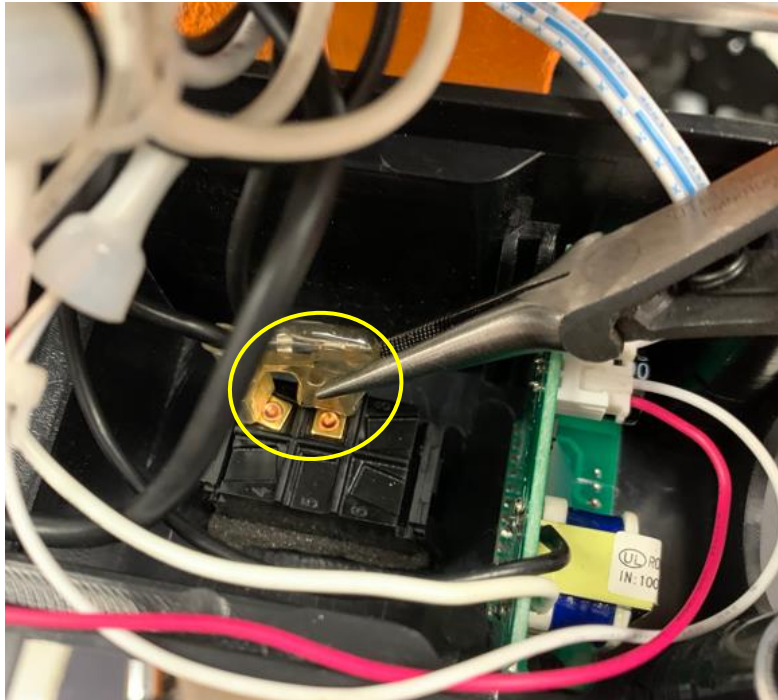

Figure 10. Motor Wire Switch Connection
7. Next remove the black motor wire from its terminal location on the switch, as shown in Figure 10. Using needle-nose pliers, gently and firmly pull the motor wire connector from the switch terminal. Pull directly up from the switch terminal (not at an angle but 90 degrees upward) so that the terminal does not bend or become strained.